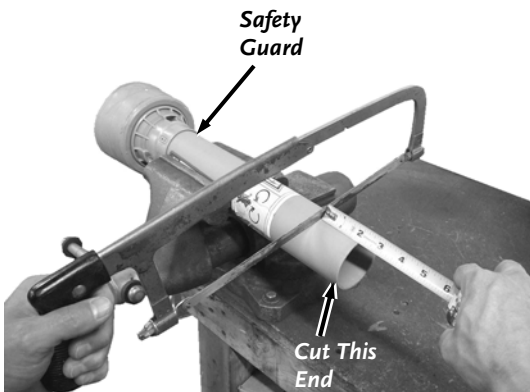

Figure 18
3. Measure and cut the ends of both Guards the required amount (**Figure 18**).